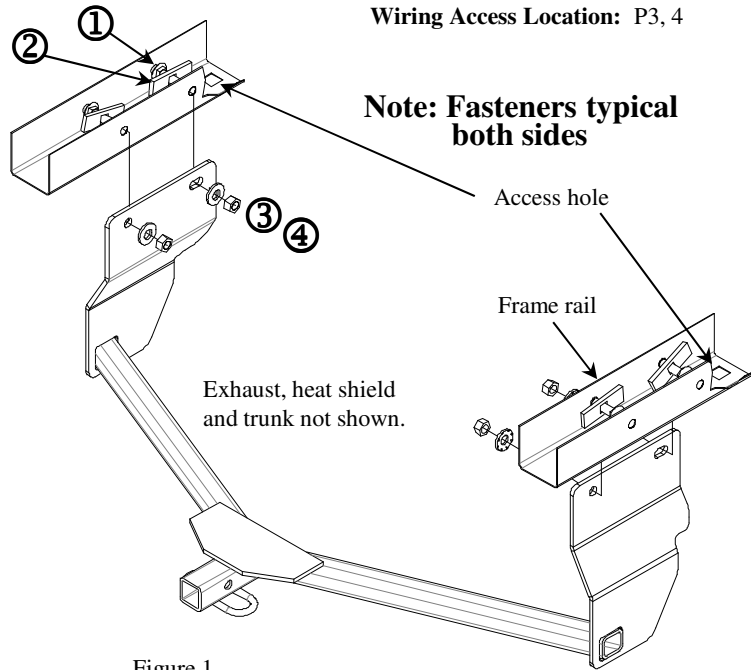

Figure 1.
5. Raise hitch into position as shown. Figure 1 Note: on dual exhaust locate the hitch near the muffler then raise along exhaust pipes and move rearward into position